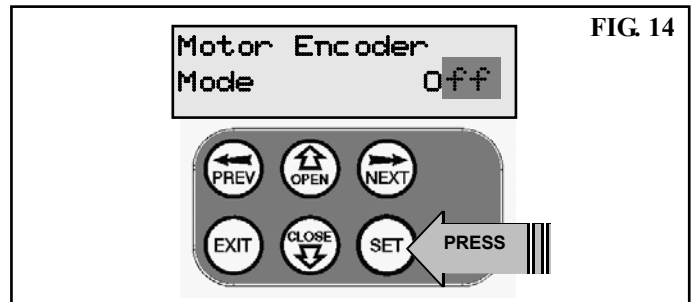

FIG. 14
2. Press SET to continue (Fig. 14).